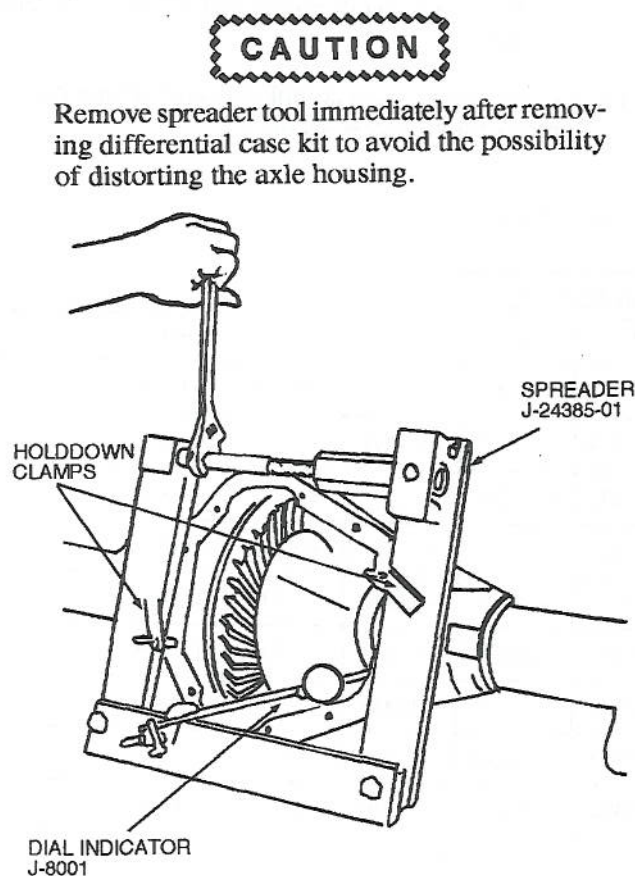

Figure 5-129. Spreading Axle Housing
- (10) Loosen, but do not remove, differential bearing cap bolts.
- (11) Install spreader tool #J-24385-01 (figure 5-129). Be sure to install holddown clamps to keep spreader tool in position.